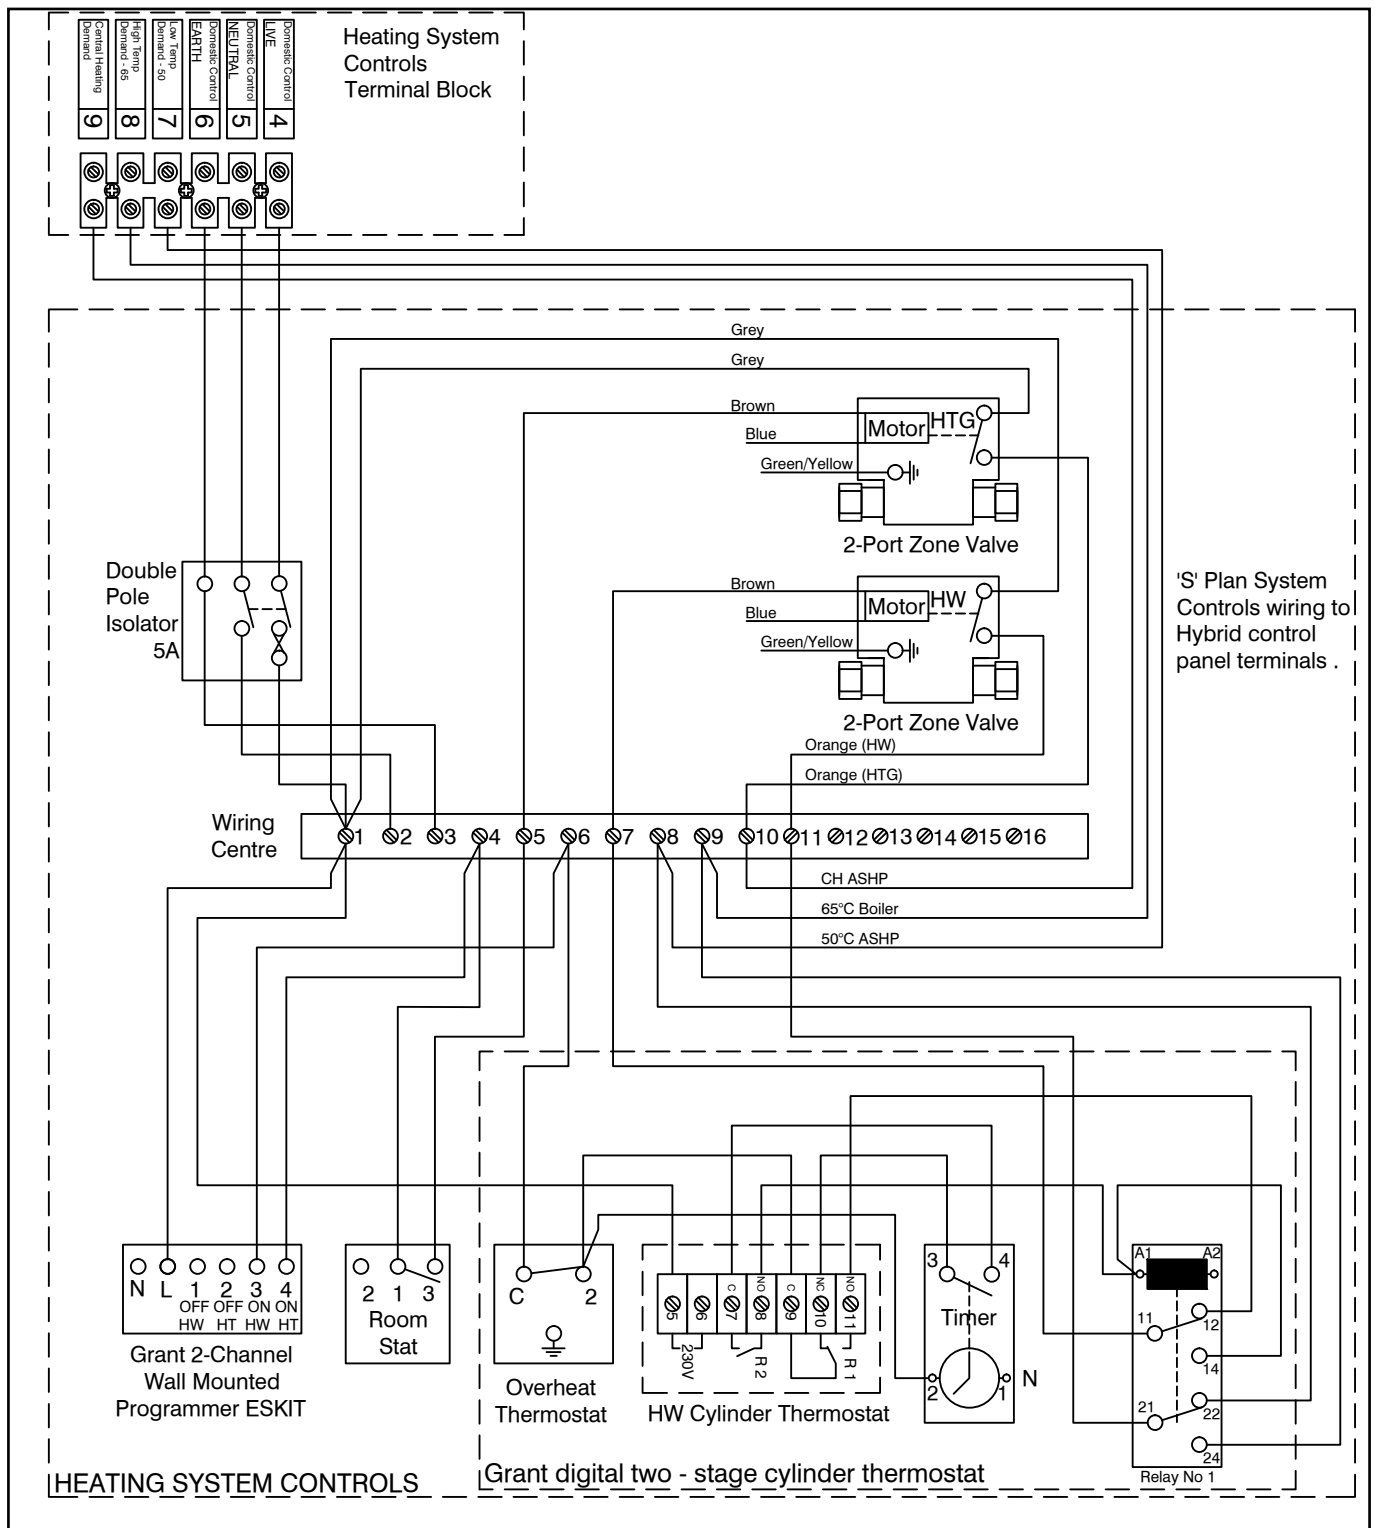

Figure 10-10: Heating controls - S-plan with Grant digital two-stage stat (HW provided by heat pump, boiler and two-stage cylinder stat)
Refer to Figures 10-10 and 10-11 for the electrical connection diagram for the digital two-stage cylinder thermostat.
2. Disconnect the DHW demand connection from terminal 7 on the Heating system controls terminal block (in the hybrid control panel) and connect it to terminal 8 instead. Refer to Figure 10-10.